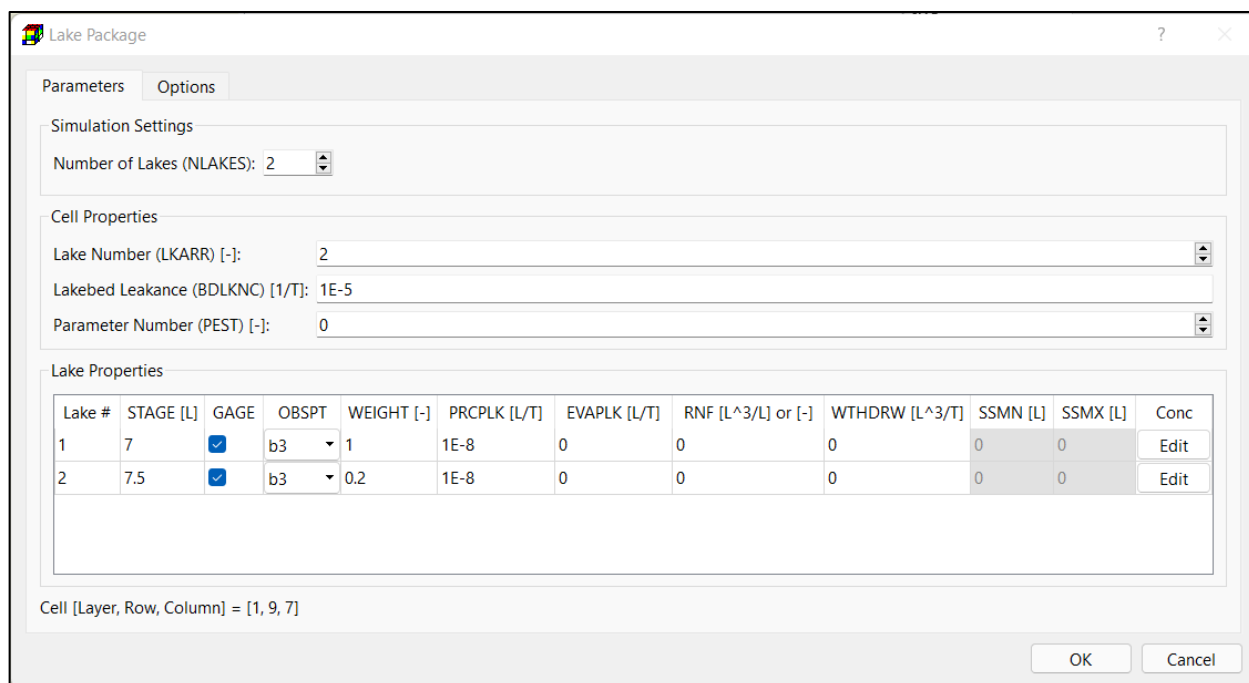

Figure 71. The Lake Package dialog box
1. Cell-by-cell input method: Figure 71 shows the dialog box for specifying cell properties.